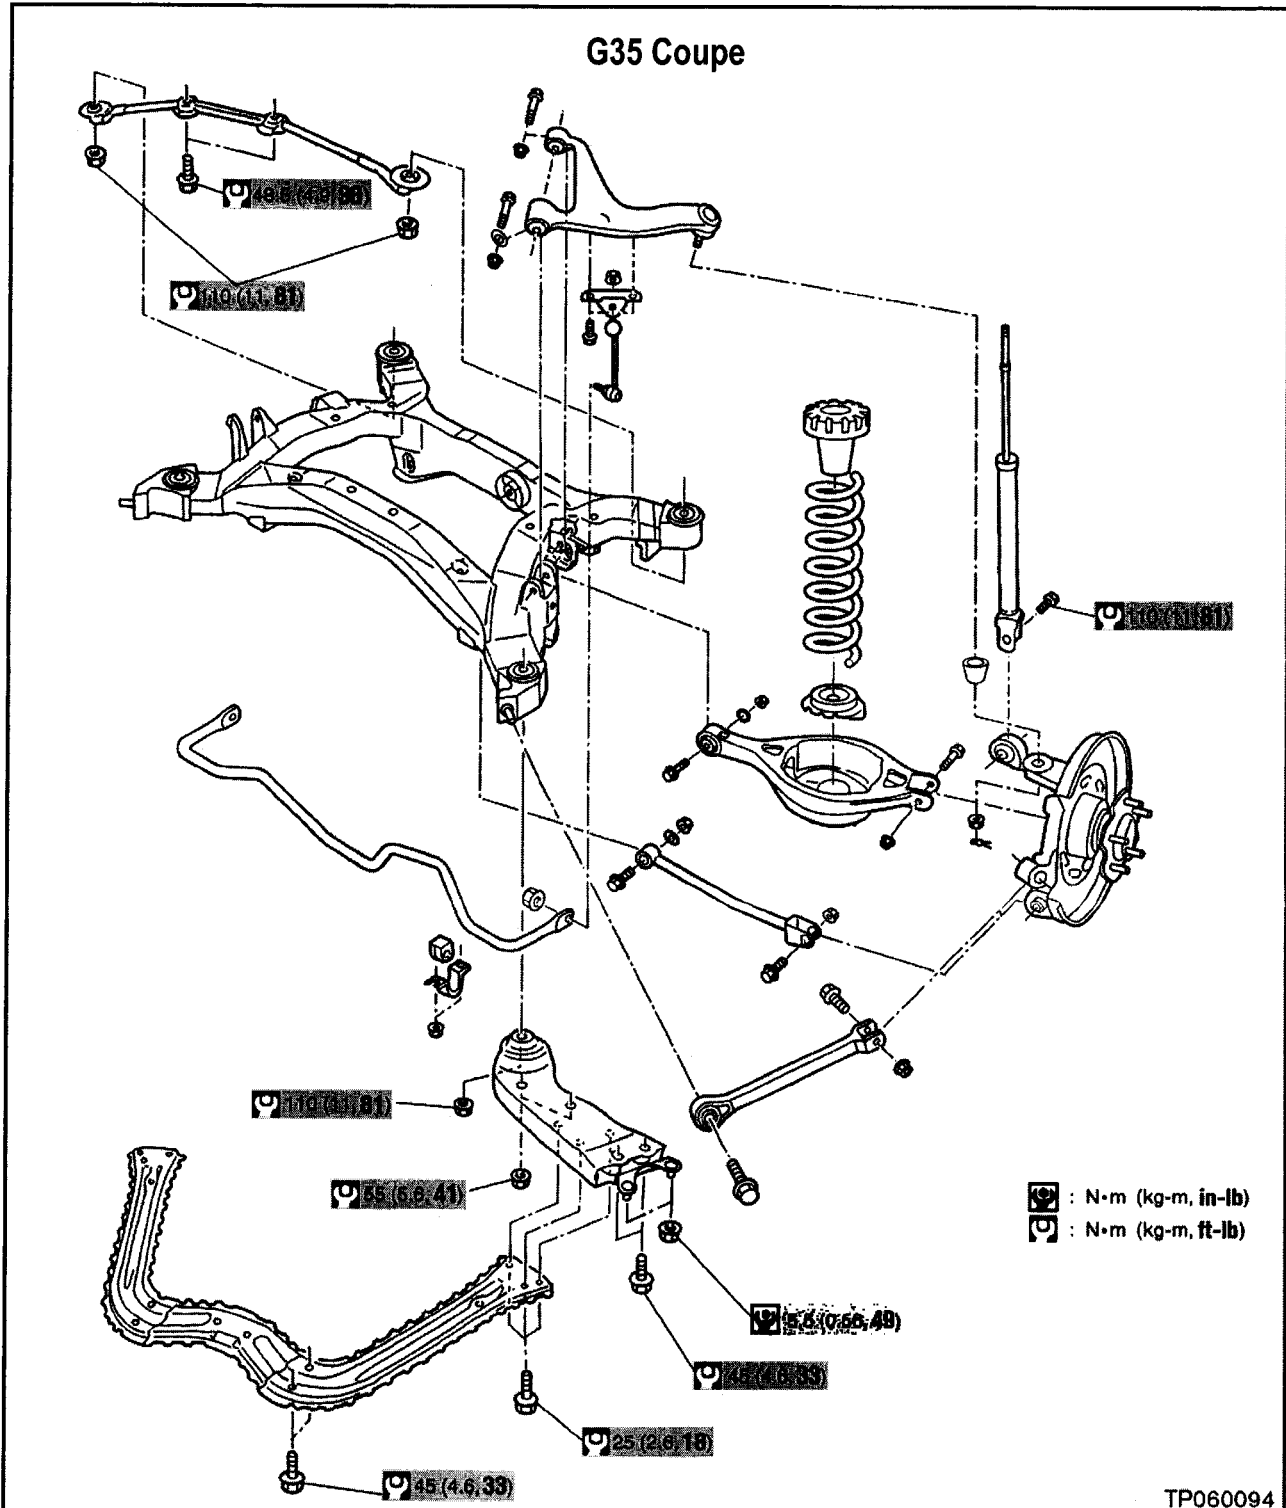

Figure 37
- All highlighted suspension fasteners are tightened to the proper torque specification (see Figures 37 and 38).